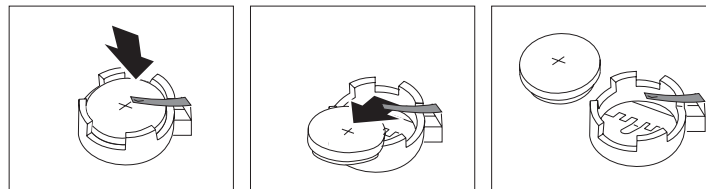

Figure 136. Removing the system board CMOS battery
Perform the following steps to remove the system board CMOS battery. See Figure 136.
4. Use a finger to lift the battery clip above the battery, which is shown in Figure 136.